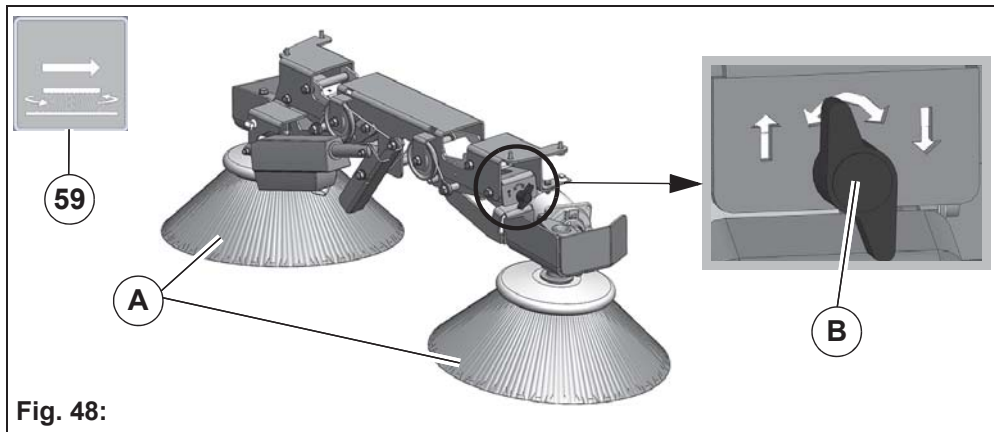

Fig. 48:
The tilt of the side brush **Fig. 48-A** is preset in the factory and cannot be changed.
3. Turn wing nuts **Fig. 48-B** clockwise at both sides until 1/3 of the area of the side brush is touching the floor.